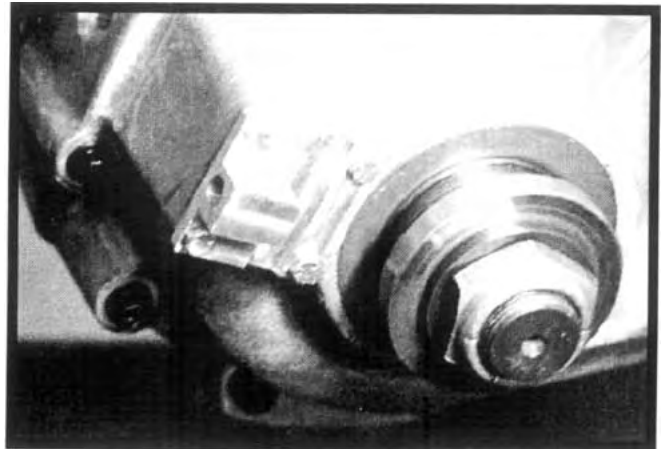

Figure 6.47
30. Install a new O-ring on the shift cylinder cap. Install the cap such that the air inlet port points away from the front output shaft. See Figure 6.47. Torque the four cap screws to specification.